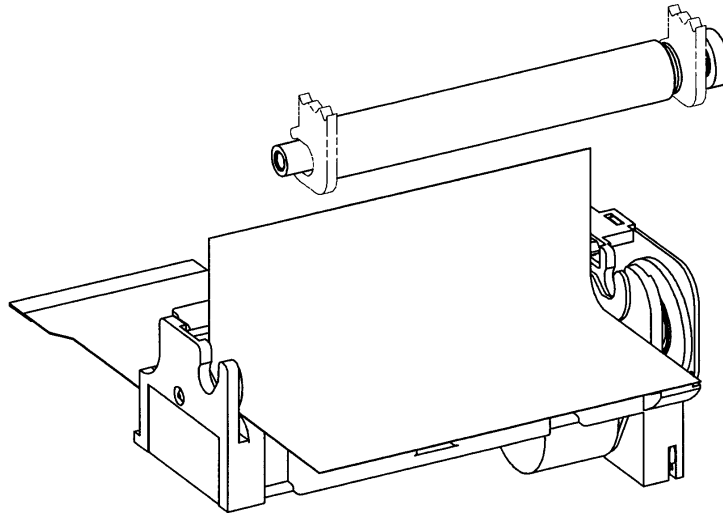

Figure 8-2 Loading Paper (2)
- Insert the paper vertically into the printer. (See **Figure 8-2**). Pull the paper outside the paper outlet and place the platen block into the printer mechanism firmly. Make sure that the platen block locks with a click (Close state).